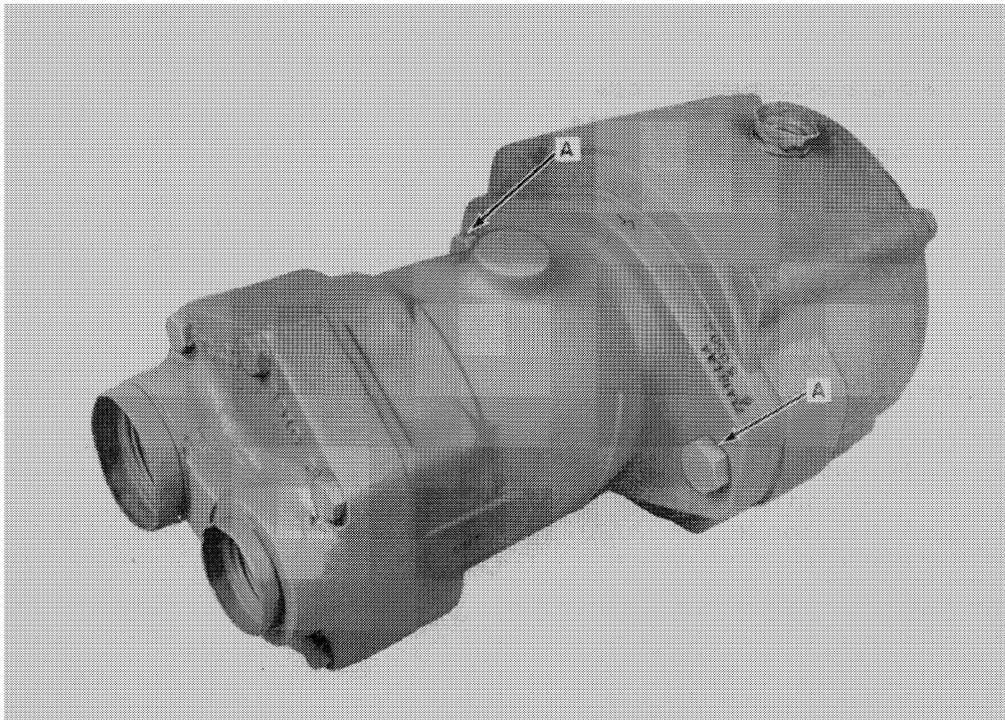

FIGURE 6
2. Remove the torque arm and bracket from the pump. The bracket is secured with two bolts, A, Figure 6, that secure the gearbox to the pump.